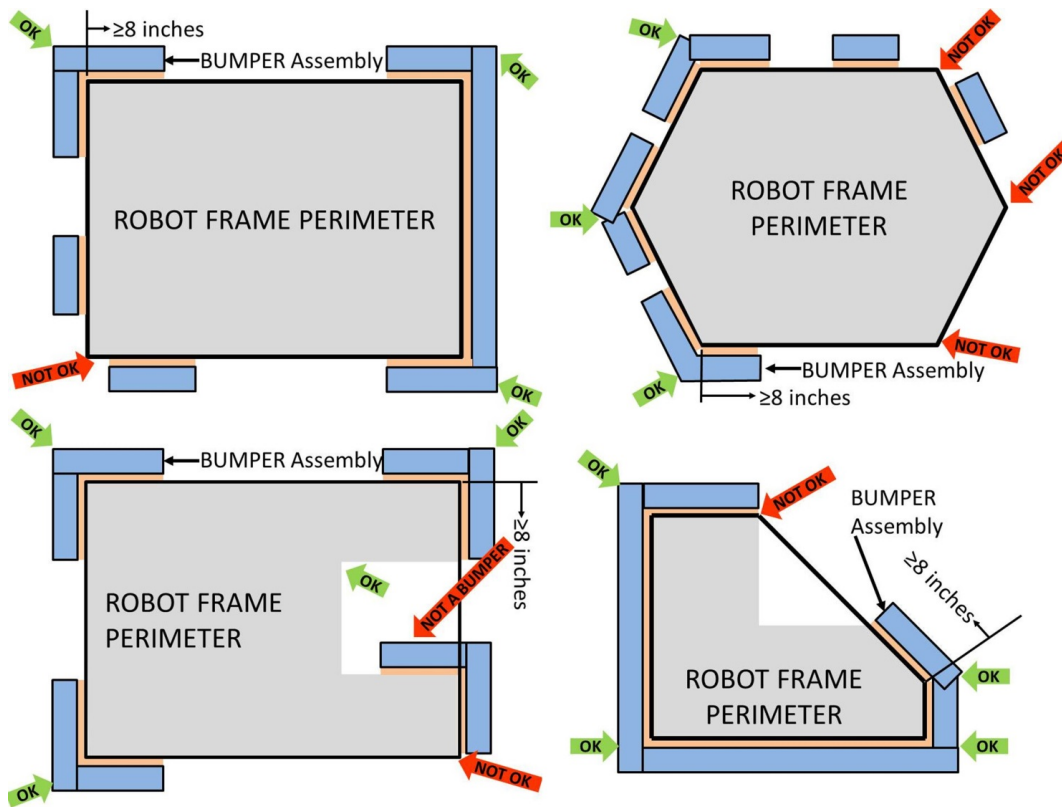
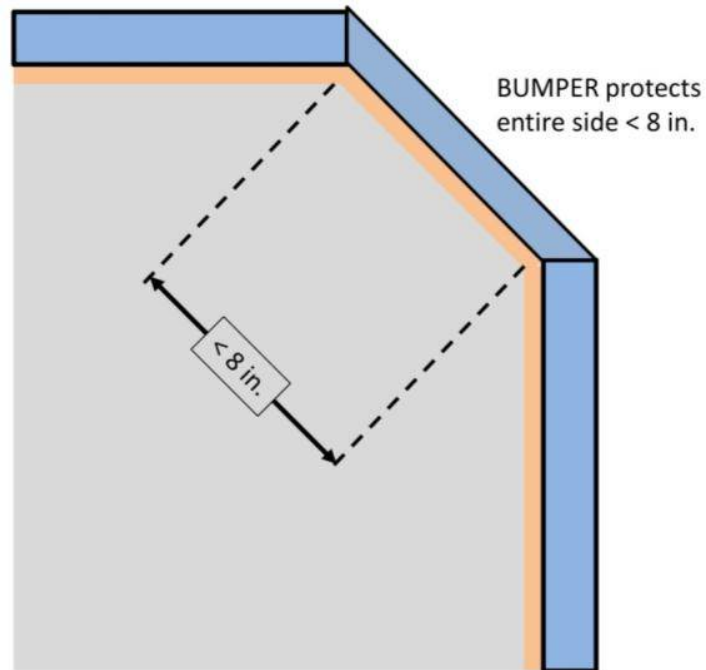
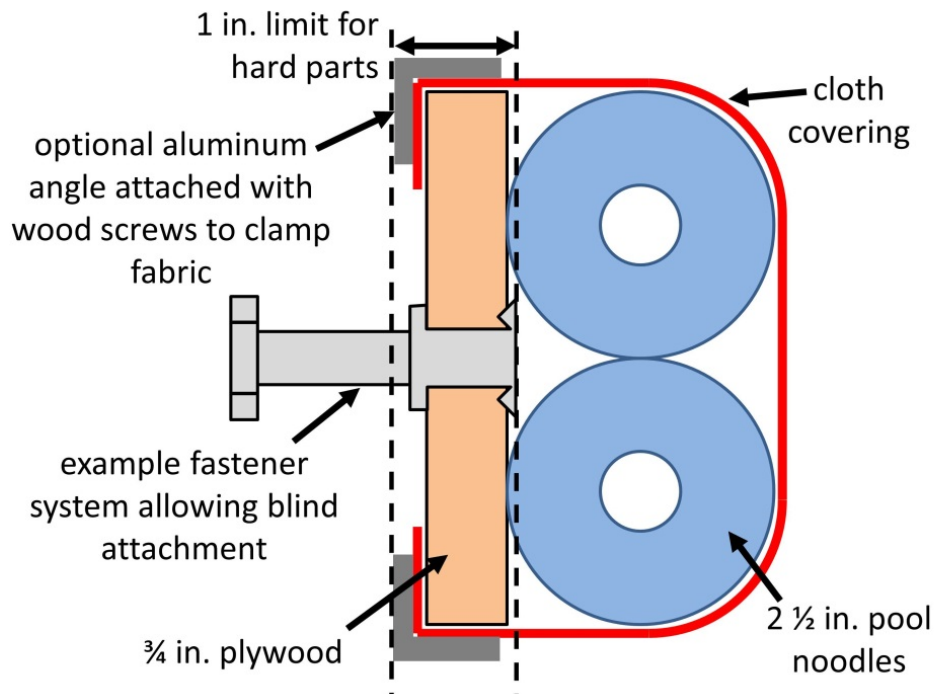
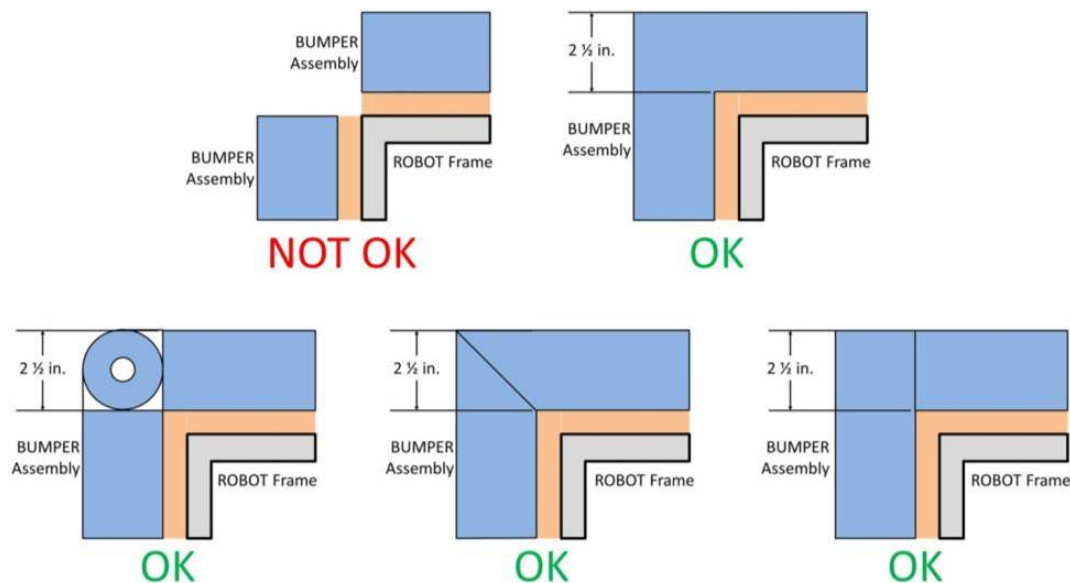

Figure 4-5: BUMPER Corner Examples
Figure 4-6: BUMPER Side Less Than 8 in.
Figure 4-8: BUMPER Vertical Cross Section
Figure 4-9: Soft Parts of BUMPER Corners
ROBOTS are required to use BUMPERS to protect all outside corners of the FRAME PERIMETER. For adequate protection, at least 8 in. of BUMPER must be placed on each side of each outside corner (see Figure 4-5). If a side is shorter than 8 in., the entire side must be protected by BUMPER (see Figure 4-6). For the purposes of R19, a round or circular FRAME PERIMETER has an infinite number of corners.
BUMPERS must be constructed as follows (see Figure 4-8):
B. hard BUMPER parts allowed per R21-A, -E, and -F may not extend more than 1 in. beyond the end of the FRAME PERIMETER (see Figure 4-7 and Figure 4-8).
C. use a stacked pair of approximately 2 ½ in. round, petal, or hex “pool noodles” (solid or hollow) as the BUMPER cushion material (see Figure 4-8). Cushion material may extend up to 2 ½ in. beyond the end of the plywood (see Figure 4-5 and Figure 4-9).
E. Optionally, use aluminum angle to clamp cloth as shown in Figure 4-8
There is no explicit requirement that BUMPERS be perfectly parallel to the floor, however the requirement that BUMPERS be constructed per Figure 4-8, the vertical cross-section, does implicitly mean that a BUMPER should not overtly deviate from this orientation.
Corner joints between BUMPERS must be filled with pool noodle material. Examples of implementation are shown in Figure 4-9.